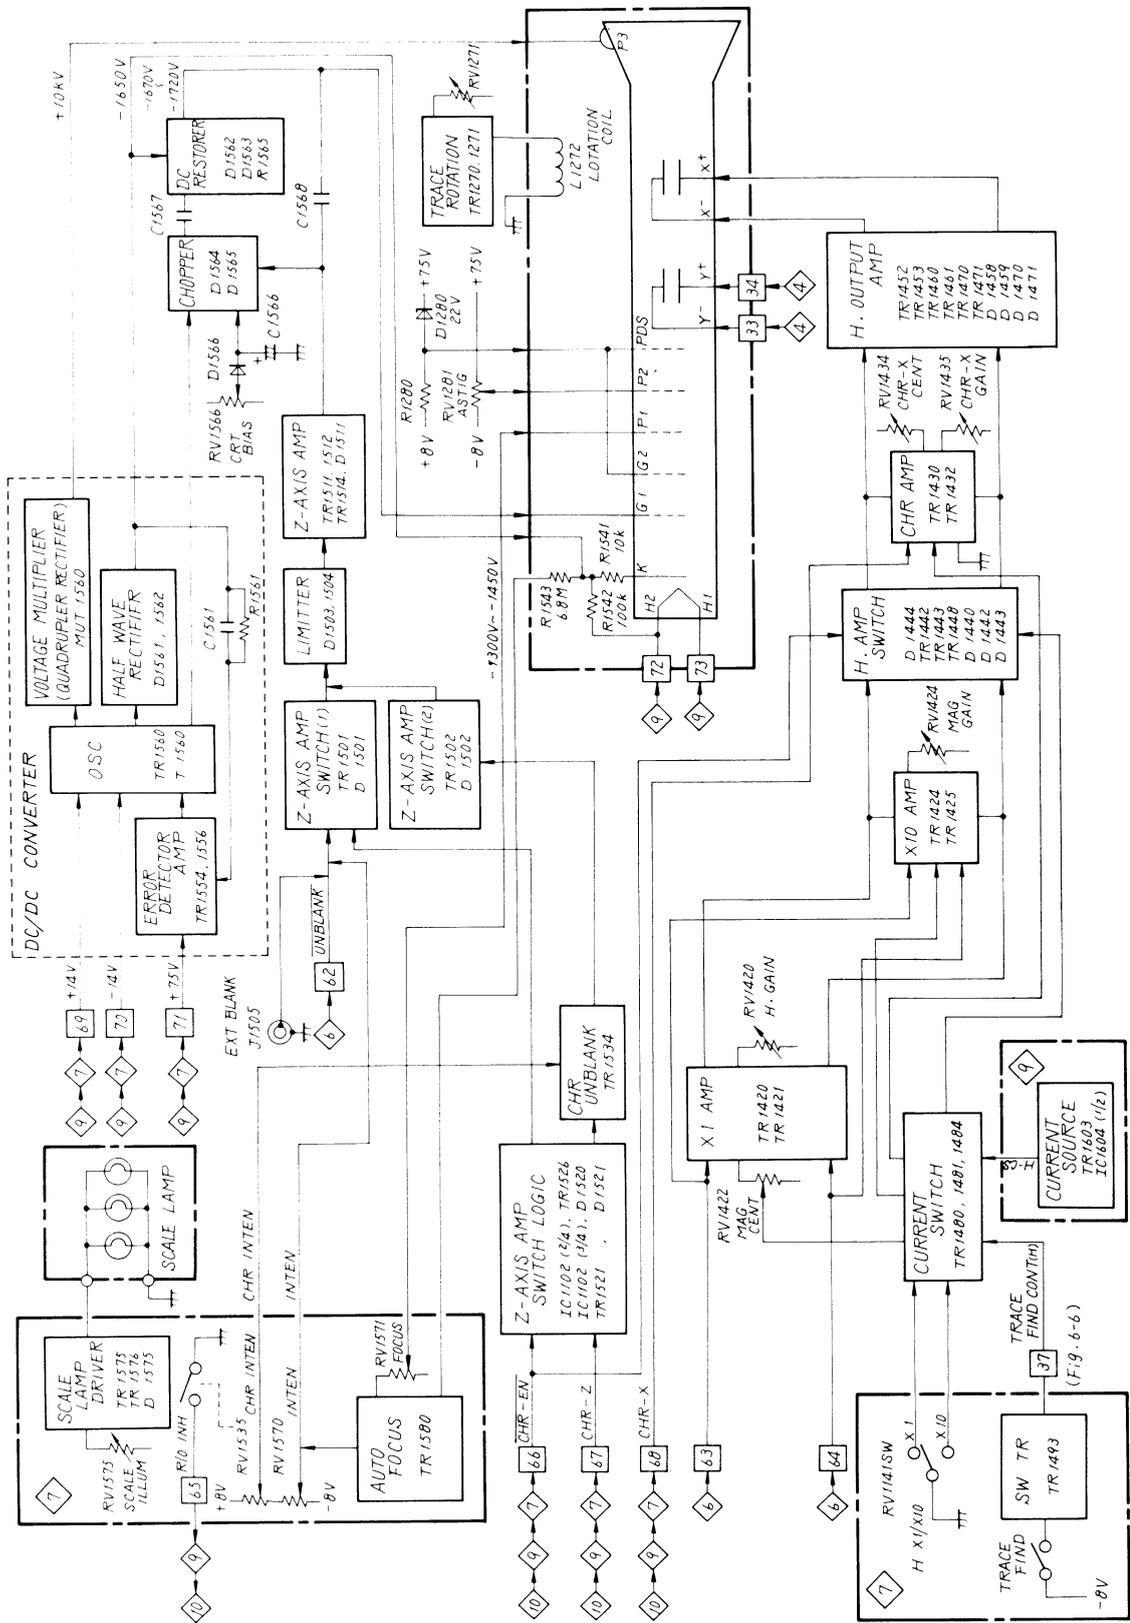
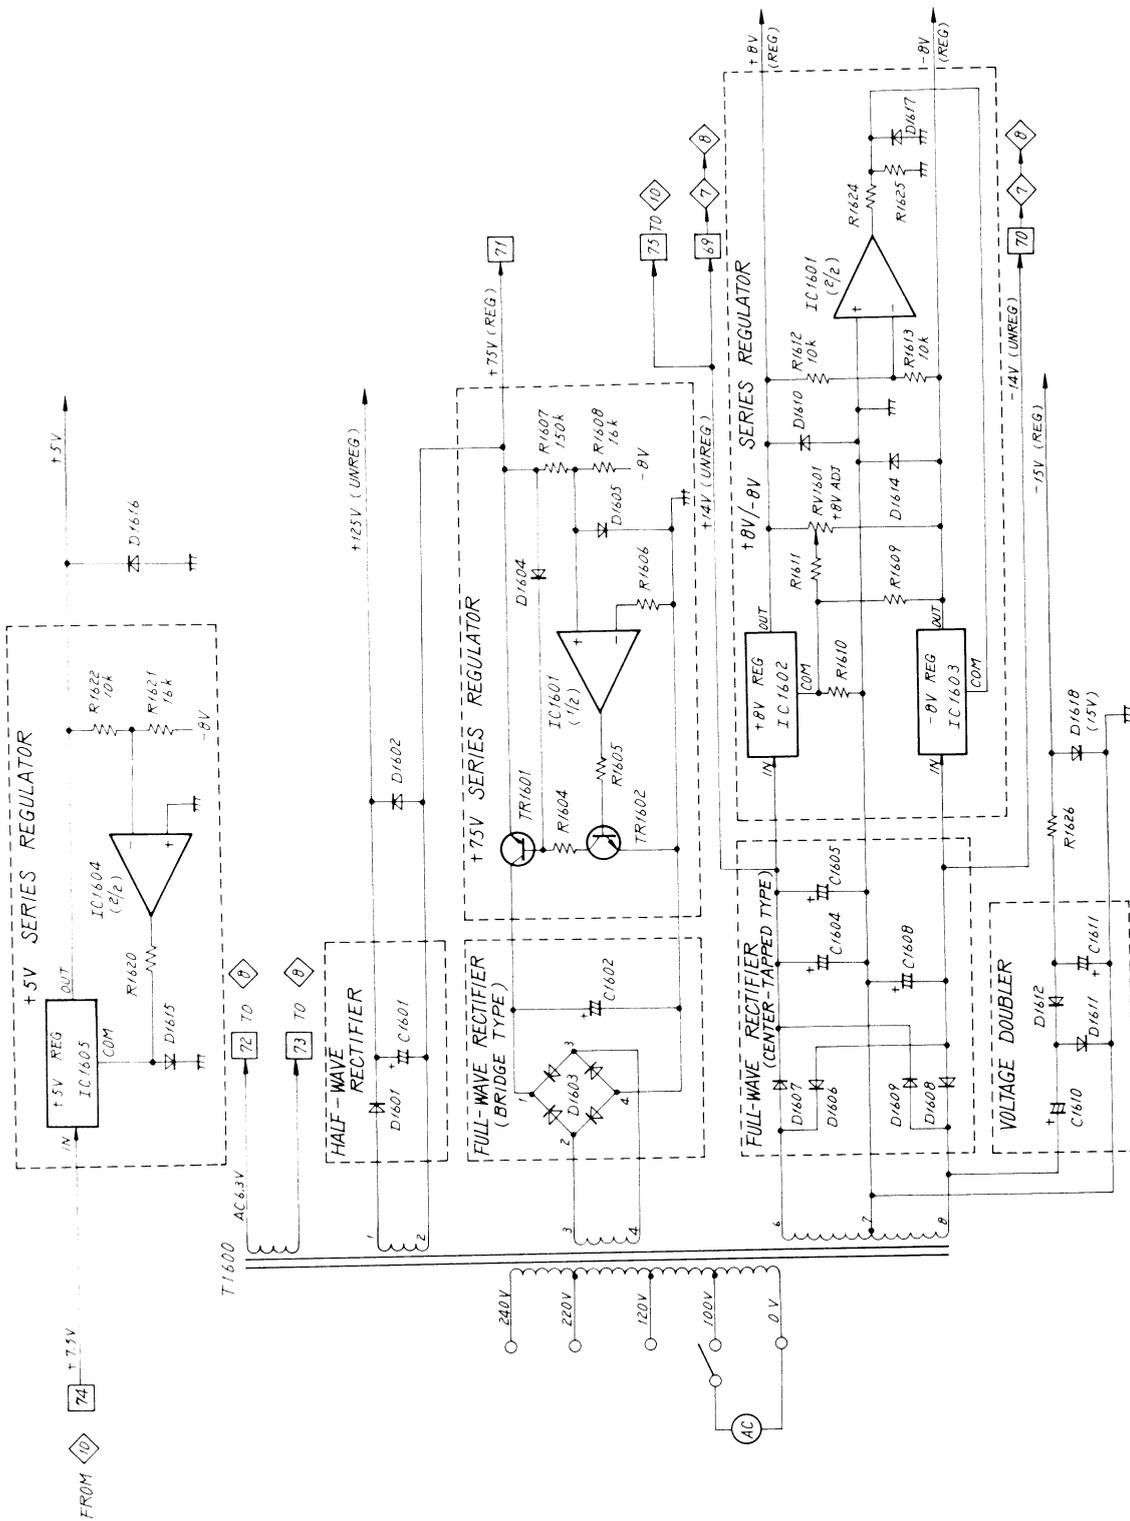

Fig. 6-13
Fig. 6-15
Figure 6-13 is a detailed block diagram of this circuit.
Z-AXIS AMP SWITCH LOGIC (See Figures 6-13 and 6-14.)
H AMP (See Figures 6-13 and 6-14.)
Figure 6-15 is a detailed block diagram of POWER SUPPLIES & OTHERS circuit. As for the horizontal current source circuit consisting of TR1603 and IC1604 (1/2), see Figures 6-13 and 6-14 of .
6.9 READOUT CONTROL CIRCUIT (1) (PEF-770 1/2)
Figure 6-15 is a detailed block diagram of the READOUT CONTROL CIRCUIT (1).